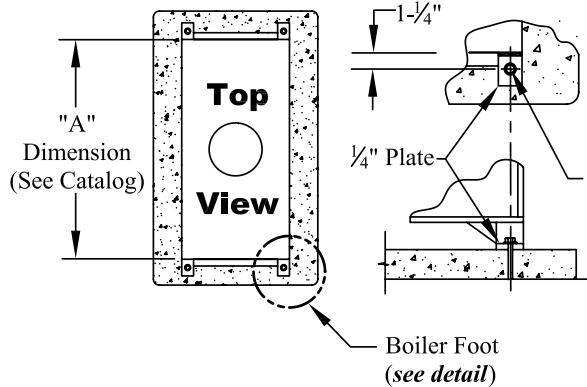

**Figure 2**
1. Boiler may be placed directly onto pad as shown in **Figure 1** or moved on rollers as shown below in **Figure 2**: